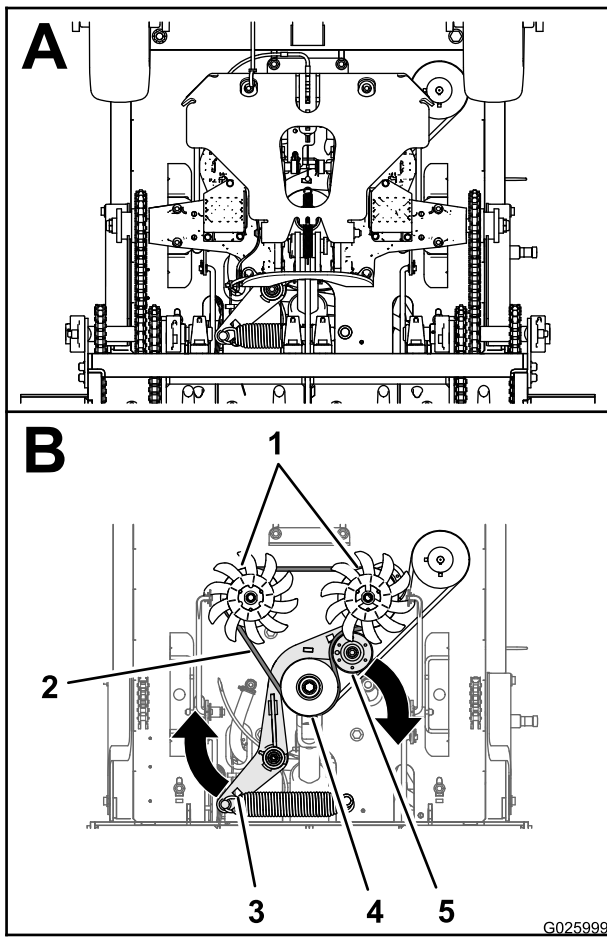

Figure 56
2. Insert a breaker bar into the socket of the belt-tension bracket and move the bracket outward and forward (Figure 56).
- Slip the transmission-drive belt of the engine, tensioner, and transmission pulleys (Figure 56).
- Route the new transmission-drive belt around the engine, tensioner, and transmission pulleys as shown in Figure 56
- Release the belt-tension bracket and allow the spring to tension the belt (Figure 56).